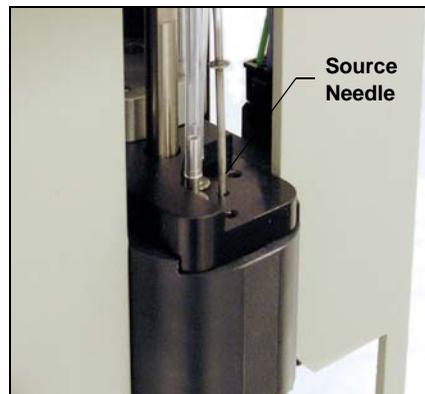

Figure 5-24. Removing the Source Needle from the Needle Block
- Lift up the source needle to remove it from the needle block (see Figure 5-24), and then pull the needle through the rear of the needle assembly.